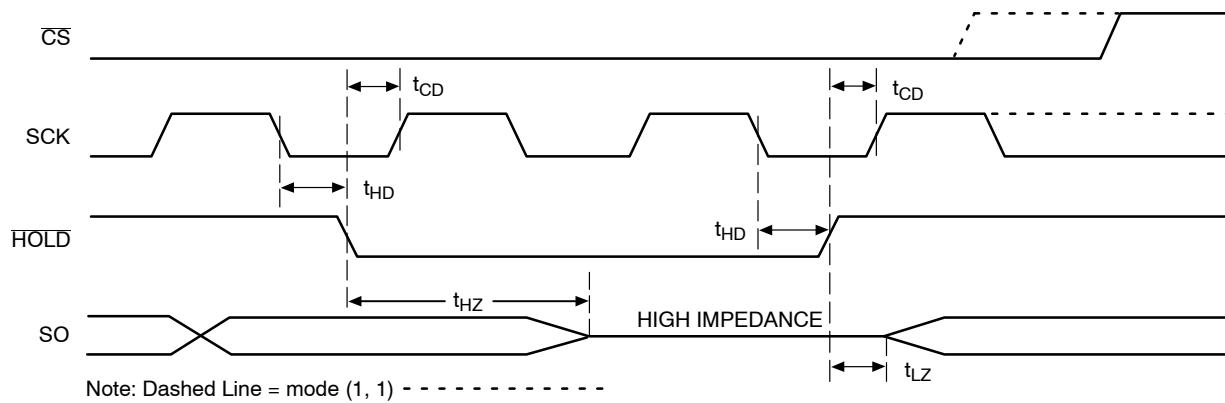

Figure 11.  $\overline{\text{HOLD}}$  Timing
The  $\overline{\text{HOLD}}$  input can be used to pause communication between host and CAV25M01. To pause,  $\overline{\text{HOLD}}$  must be taken low while SCK is low (Figure 11). During the hold condition the device must remain selected ( $\overline{\text{CS}}$  low). During the pause, the data output pin (SO) is tri-stated (high impedance) and SI transitions are ignored. To resume communication,  $\overline{\text{HOLD}}$  must be taken high while SCK is low.